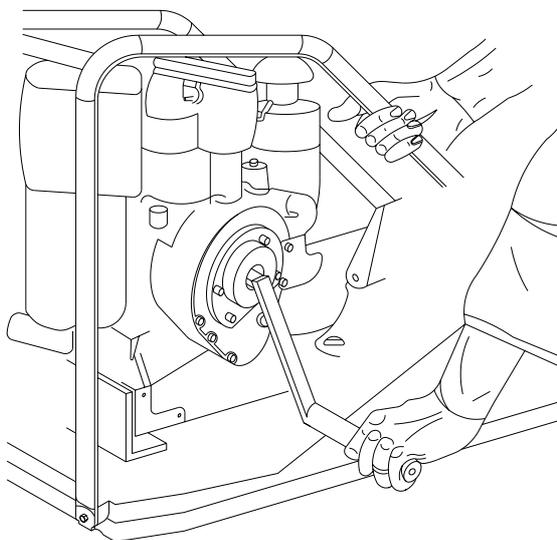

Fig. 2
- 6) Stand sideways to the engine, feet slightly apart, and on the side in which the crank will be moved to from its lower position (fig. 2).